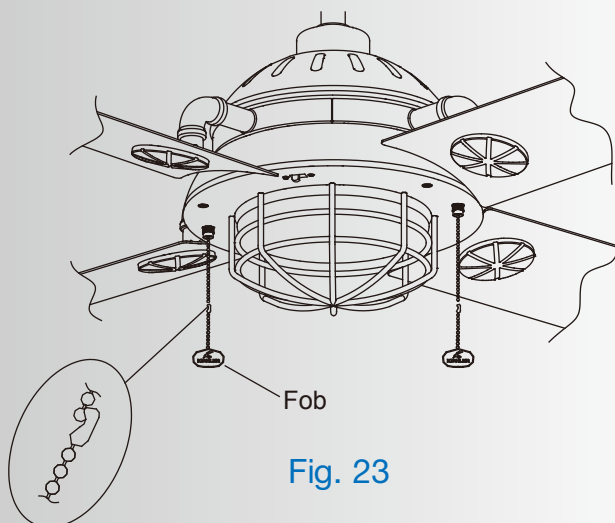

Fig. 23
Step 2. Attach the decorative pull chain fobs to the chain coming out of the light case. Refer to Fig. 23.